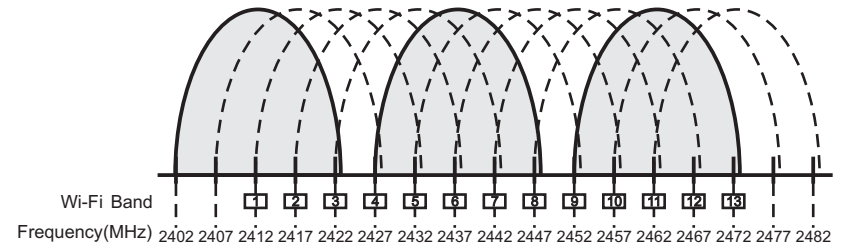

Fig. 7
- (1) Position the MA-100DG/SG at least 5-meter away from WiFi, Bluetooth or other 2.4 GHz transmitting devices.
- (2) Line-of-sight between the transmitter and MA-100DG/SG provides the ideal reception range.
- (3) User can scan environment for WiFi devices with smartphone app, normally WiFi channel selections are 1, 6, 11.
(4) Wi-Fi Channel Distribution, Fig. 7: